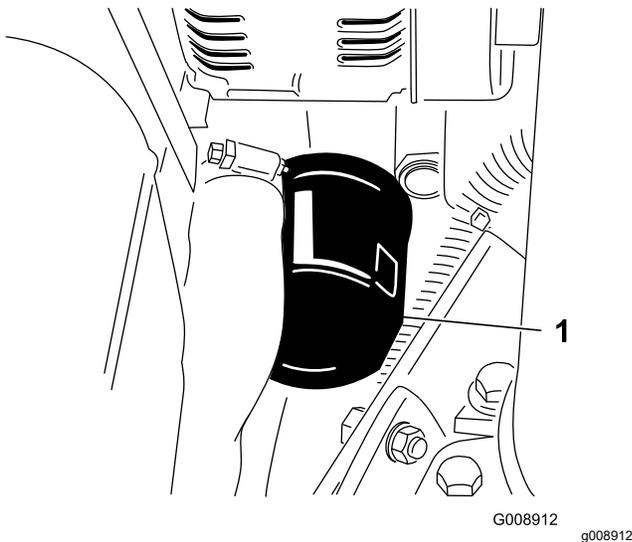

Figure 56
3. Remove the oil filter (Figure 56).